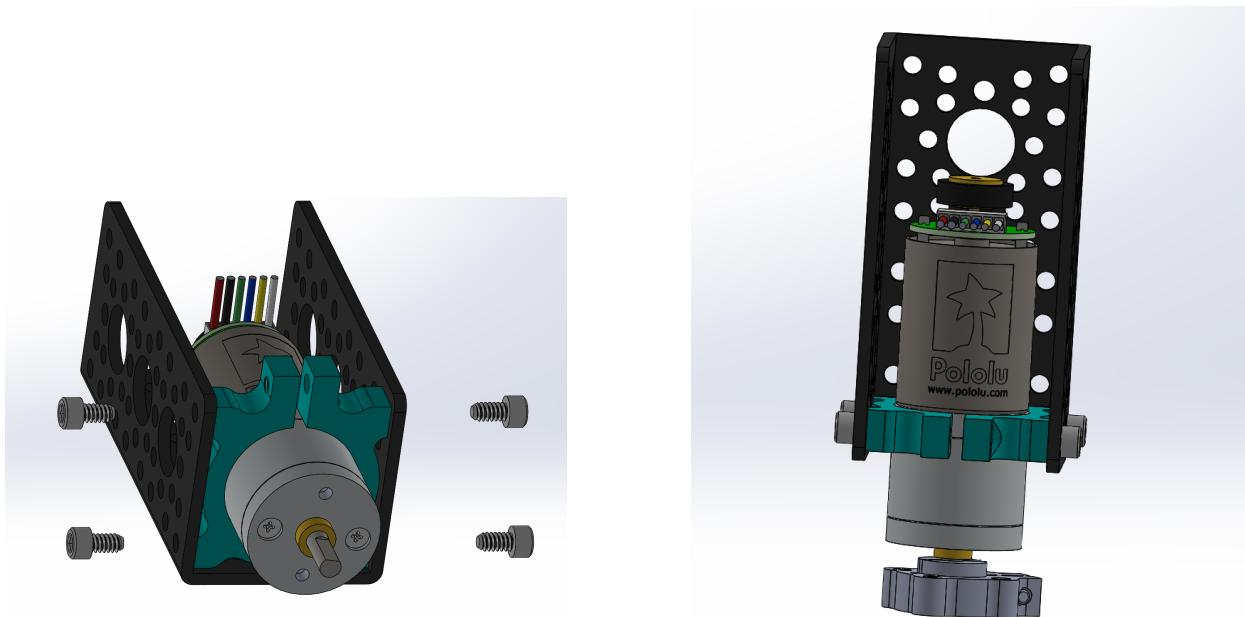

Figure 3: Wheel Step 1
1. **Motor Mount:** Start by taking motor **E5**, clamping mount **S25**, 3 inch channel **S2**, and screws **B1** to assemble the motor into the channel as shown in Figure 3. Make sure to slide the motor all the way up to the top of the gearbox in the clamping hub.